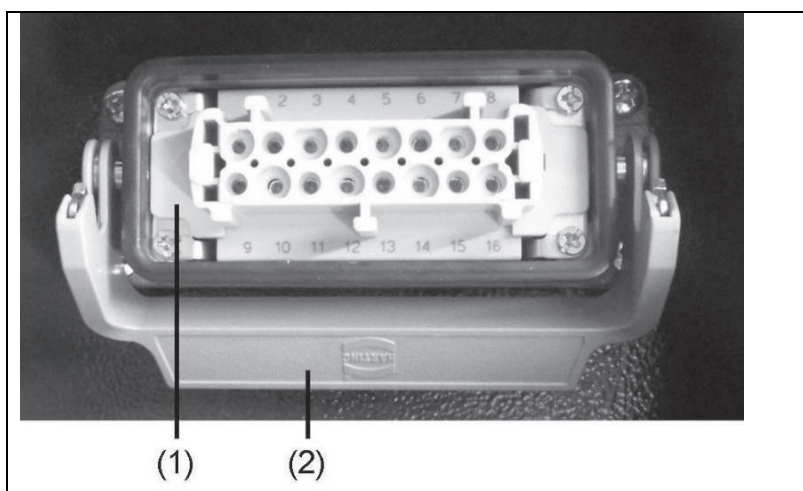

Figure 5-4: Remote start device with Harting plug
1. Fold away any protective caps on the remote start socket after unlocking the clip (see Figure 5-4-(2)).
2. Plug the remote start operating status / generator connecting cable into the remote start socket (Figure 5-4-(1)) and then use the clip (Figure 5-4-(2)) to secure it in place.